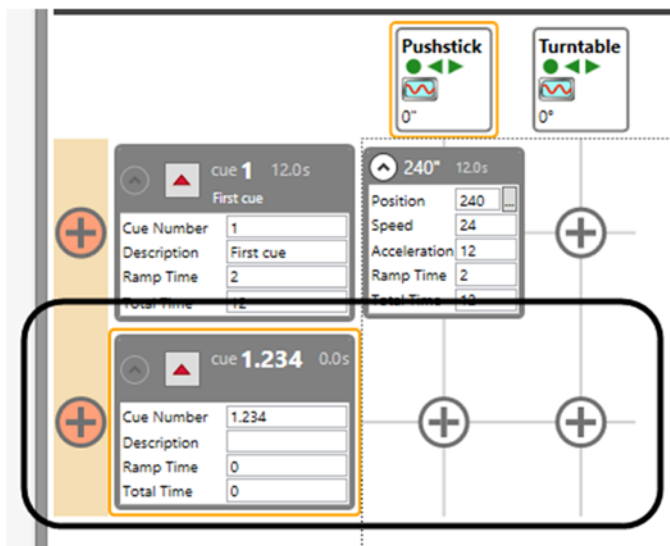

Figure 38
3. A new row is added to the **Cue Grid** for *Cue 1.234* (Figure 38).